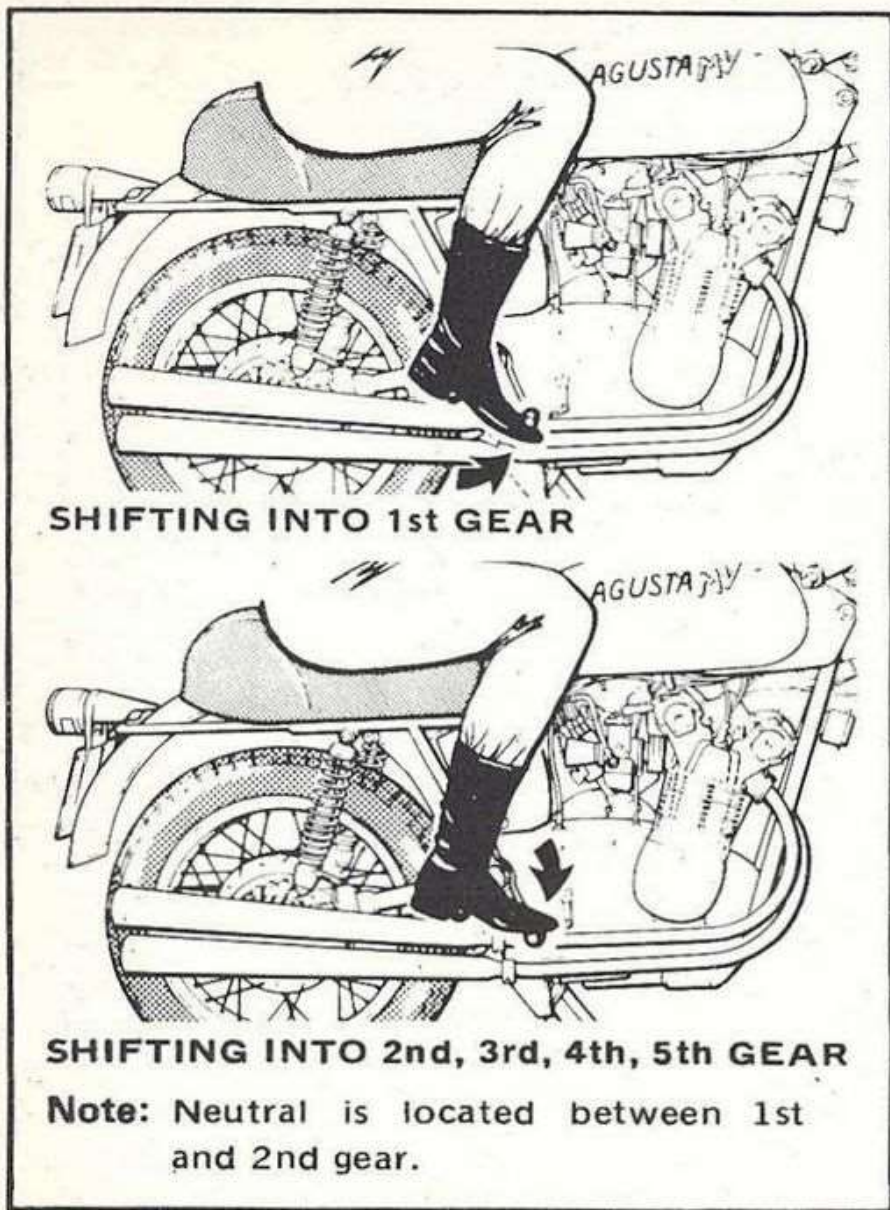

Figure 2-3. Use of gear control pedal
ge low gear pulling up gear control pedal (33). See figure 2-3 for gear control pedal details.
For shifting from a lower into a higher gear it is necessary first to reach the required engine RPM, quickly close throttle grip, fully squeeze the clutch lever and shift into the higher gear by depressing the gear control pedal (see figure 2-3). Slowly release clutch lever and accelerate engine. Repeat above procedure for shifting into succeeding higher gears.
When the motorcycle is stationary and the engine is running, always shift into neutral to avoid unnecessary clutch wear. Neutral is located between the first and second gears (see figure 2-3).